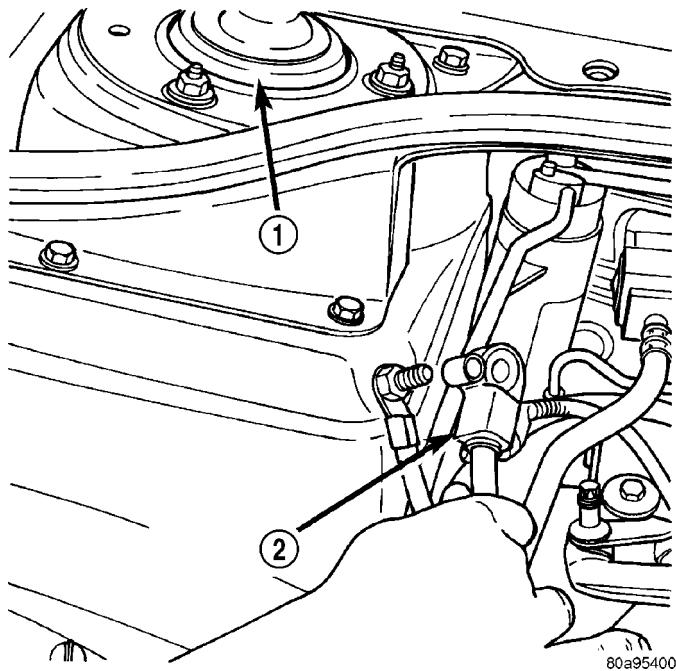

Fig. 7 NEGATIVE CABLE REMOTE TERMINAL
(1) Release fuel pressure. (Refer to 14 - FUEL SYSTEM/FUEL DELIVERY - STANDARD PROCEDURE)
(2) Disconnect negative cable at right strut tower (Fig. 7).